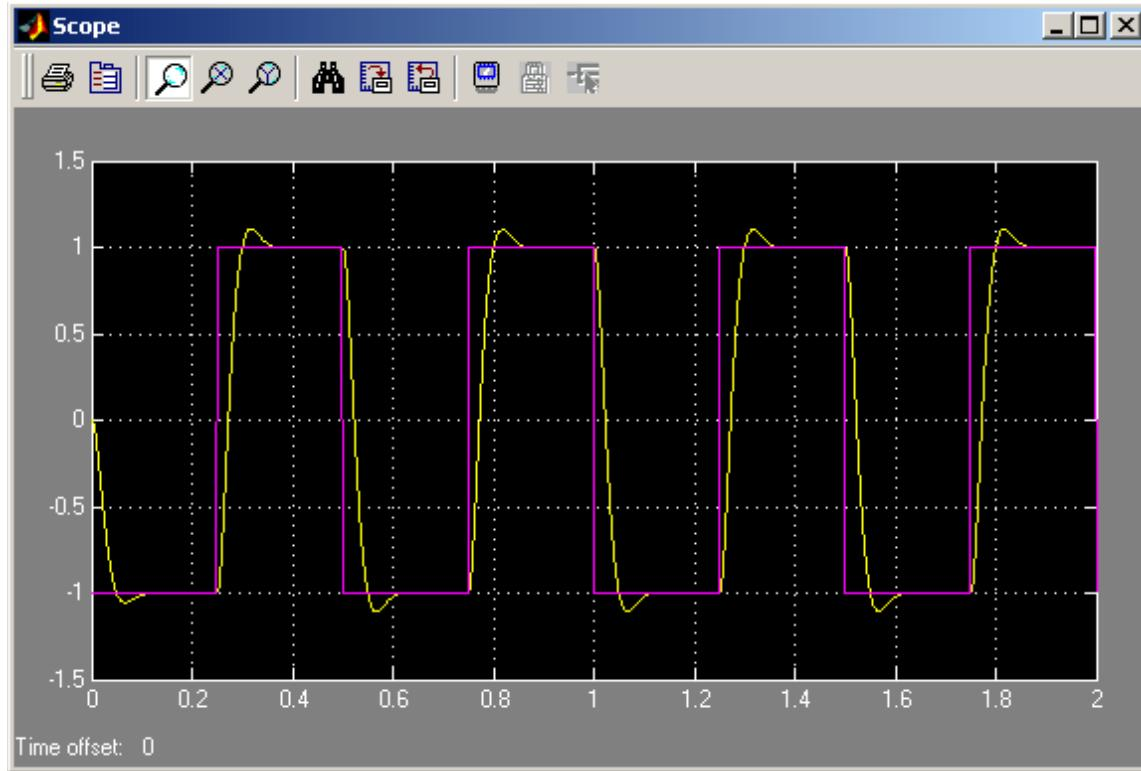

Figure 2.3: Simulation Results of 2nd Order System for Square Wave Input
- Run the simulation by pushing the triangular play button and adjust the display of the Scope with the autoscale option. You will obtain a plot similar to the one shown in Fig 2.3.